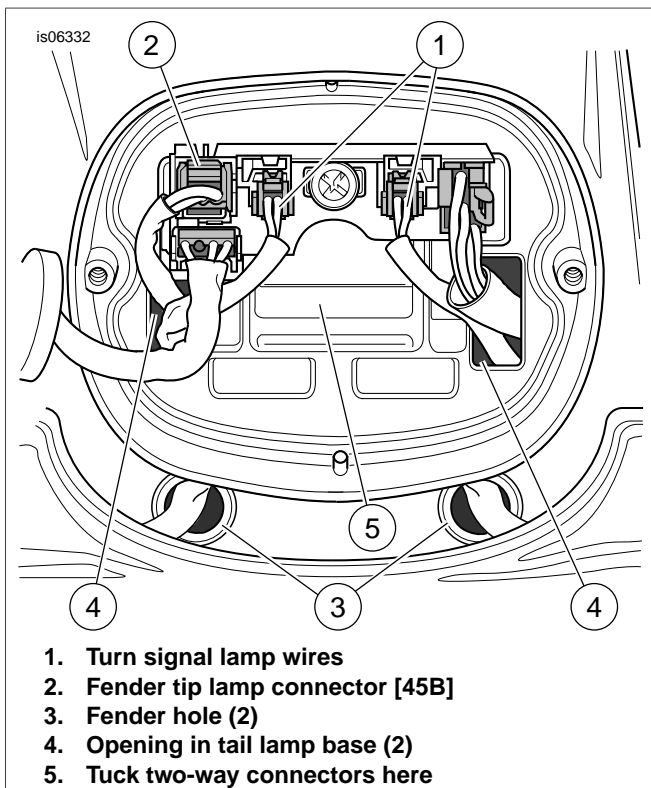

Figure 1. Tail Lamp Base Electrical Connections
- a. Removing the terminals from the OE two-way turn signal lamp socket housings [18B] and [19B] is not necessary. After disconnecting the OE socket housings from the tail lamp base, cut the OE turn signal lamp wires (1) from the socket housings to allow removal of the wires through the turn signal mounting bar. See Figure 1
- b. Unplug the three-way fender tip lamp connector [45B] (2) from the tail lamp base, if so equipped.
13. See Figure 1. Tuck the two-way socket housings from the turn signals into the recessed area (5) in the tail lamp base.